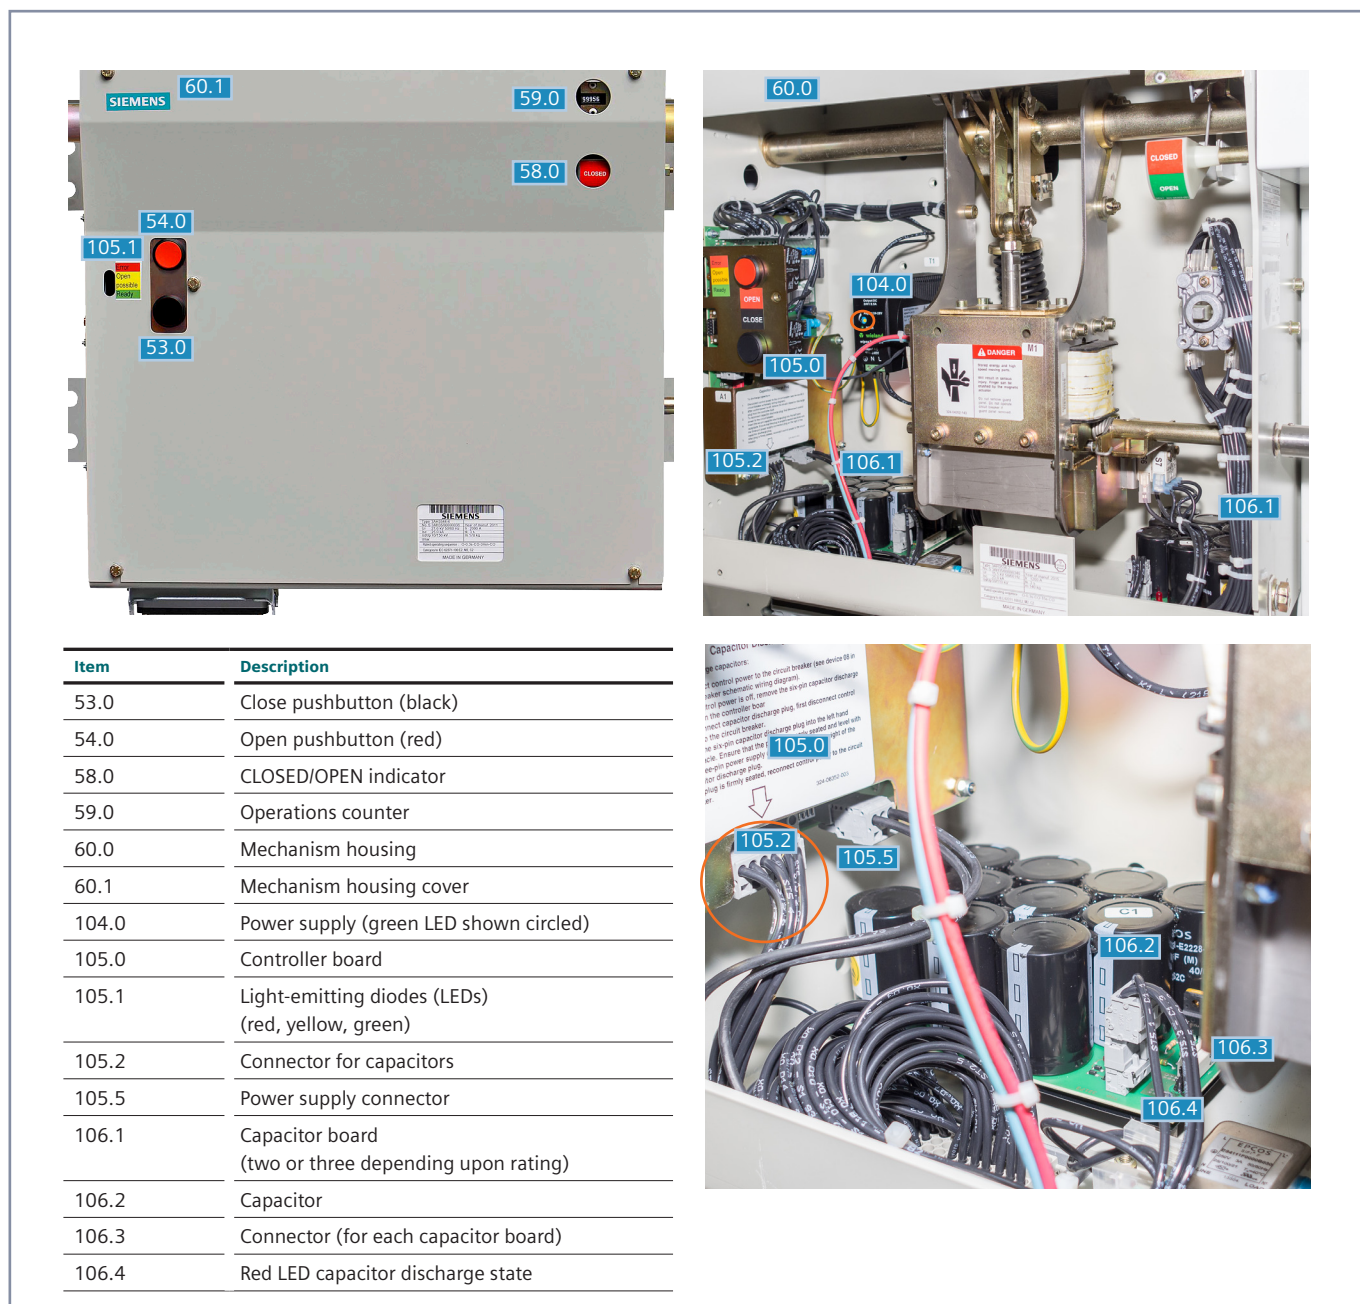

Figure 2: Operator controls and discharging capacitors
2. Before working on the circuit breaker make sure the capacitors (106.2) are fully discharged (refer to Figure 2: Operator controls and discharging capacitors). Verify that the CLOSE/OPEN indicator (58.0) is in the OPEN position. Discharge the capacitors (106.2) by unplugging the connector (105.2) on the controller board (105.0). The red LED (106.4) on each of the capacitor boards (106.1) indicate the state of the charge on the capacitors (106.2). When the capacitors (106.2) are in fast-discharge mode (by unplugging connector (105.2)), the LEDs are flashing. This indicates hazardous voltage. When the LEDs stop flashing, the capacitors are discharged to a low voltage.
Disconnect control power prior to removing or replacing the capacitor discharge plug. Refer to Figure 2.
After control power has been removed, discharge stored energy from the capacitors (refer to Figure 2: Operator controls and discharging capacitors).
3. The green LED on the power supply (104.0 in Figure 2: Operator controls and discharging capacitors) should not be illuminated. If the green LED is on, open the control power disconnect device in the relay and control compartment.